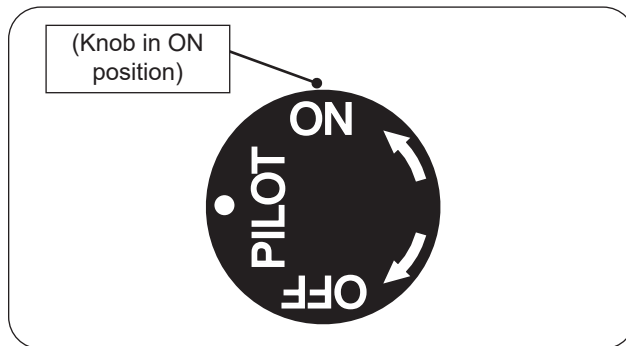

Fig. 26-1 Manual lighting
1. Ensure the pilot is burning. Turn the control knob counterclockwise ↺ to **ON** to ignite the burner (see Fig. 26-1). The valve will open and the burner will light.